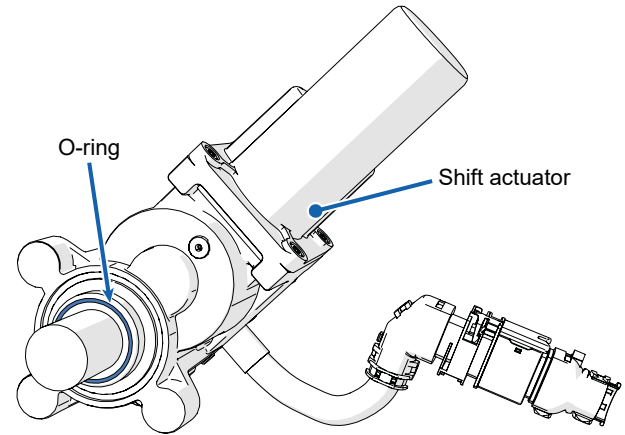

Figure 7 - Shift actuator O-ring
4. Take care not to lose the shift actuator O-ring (**Figure 7**).